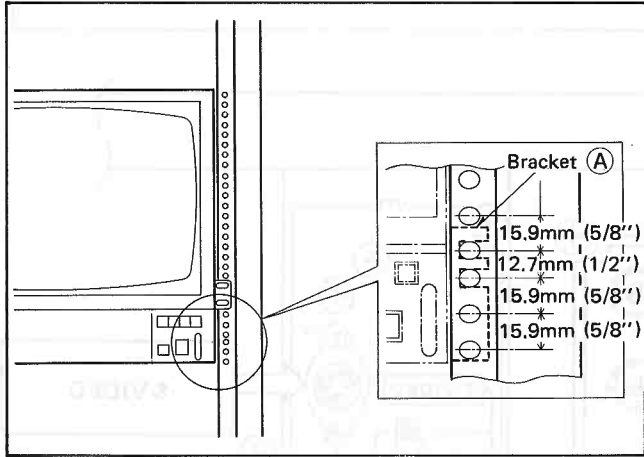

Fig. 5
5. Attach the bracket (A) at the location shown in Fig. 5.